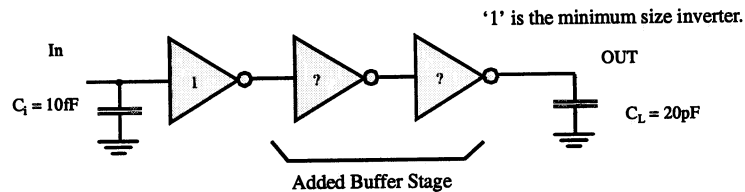

Figure 5.12 Buffer insertion for driving large loads.
- a. In order to drive a large capacitance ( $C_L = 20$  pF) from a minimum size gate (with input capacitance  $C_i = 10$ fF), you decide to introduce a two-staged buffer as shown in Figure 5.12. Assume that the propagation delay of a minimum size inverter is 70 ps. Also assume